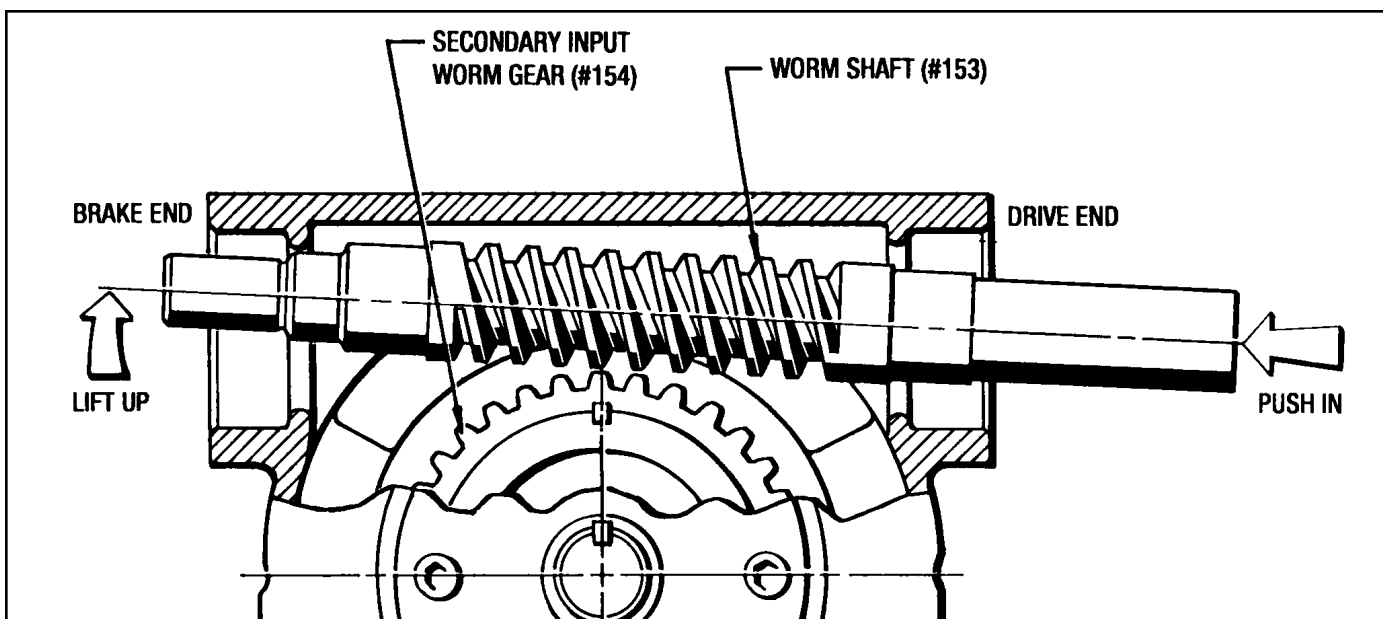

Figure 9.5 - Installing Quill Worm Shaft
1. Insert the brake end of the Quill Worm Shaft (#153) into the Secondary Input Housing (#9). (Manually lift the shaft when inserting it to clear the Worm Gear (#154). (See Figure 9.5)